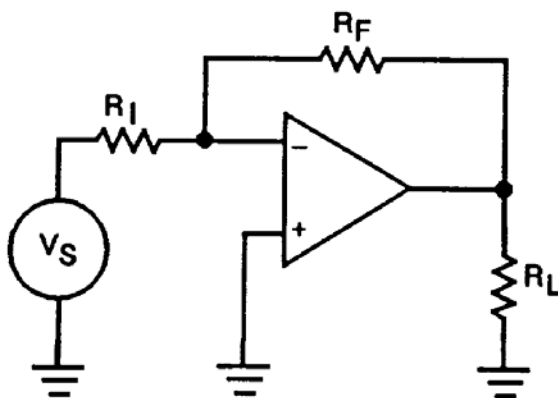

Figure Q-35. Inverting Amplifier
(1) Figure Q-35 shows an inverting amplifier. This can be ascertained by the fact that the input is applied to the minus terminal of the op amp, indicating that this is the inverting input. Feedback is applied from the output across R_f back to the input. Since the output is 180 degrees out of phase with the input, there will be negative feedback.